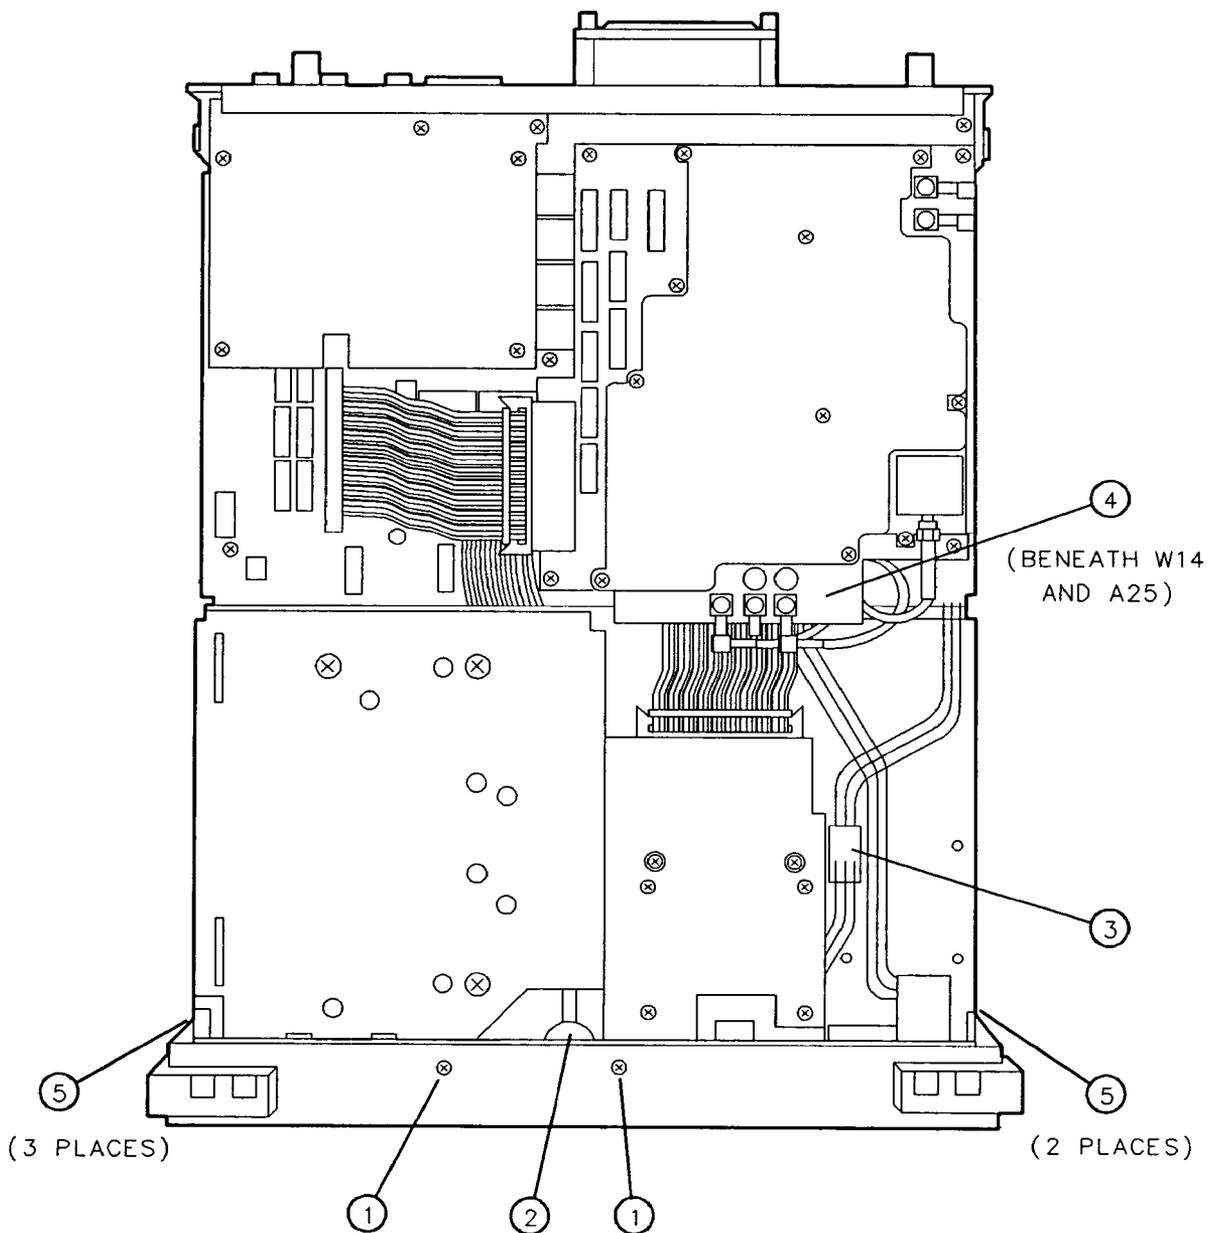

Figure 3-1. A1 Front-Frame Replacement
4. Remove the two screws (1) securing the front frame to the main chassis. See Figure 3-1.
5. Disconnect the W10 semirigid cable (2) from the INPUT 50Ω (*Option 001*: INPUT 75Ω).
6. Disconnect W3 (3) from A1R1, the front-frame INTEN control.